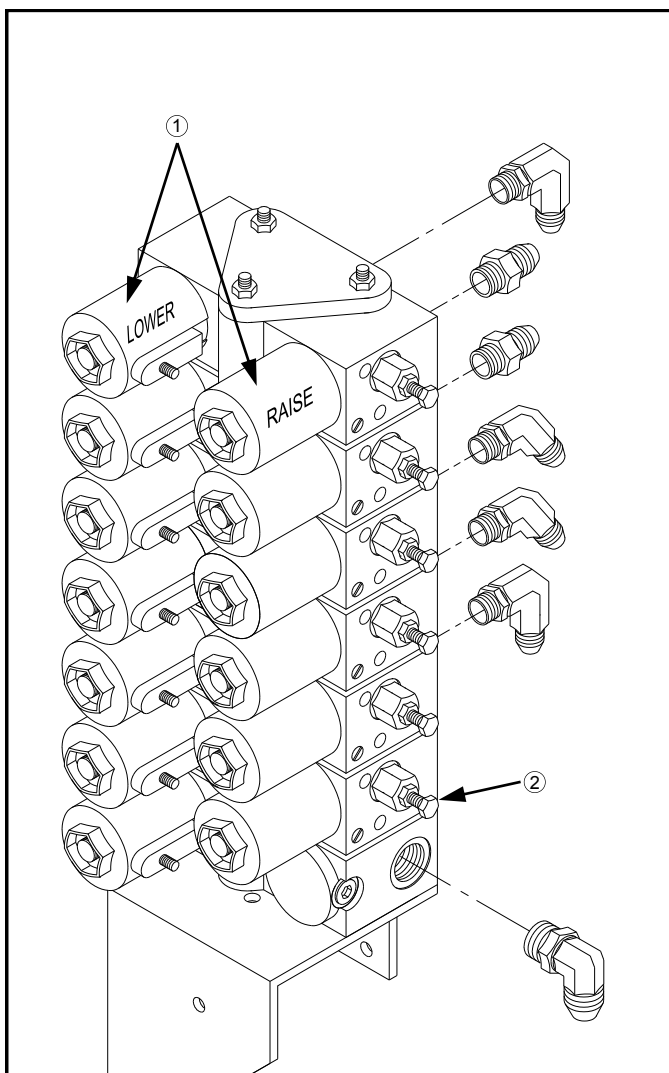

FIG 5.16
The electro-hydraulic valve which control the height of the detasseler head lift cylinders is equipped with adjustable raise and lower orifices controlled by independent coils (fig 5.16, item 1). Upon initial setup adjust the orifice screws (fig. 5.16, item 2) as follows, then see page XX for more precise adjustment: